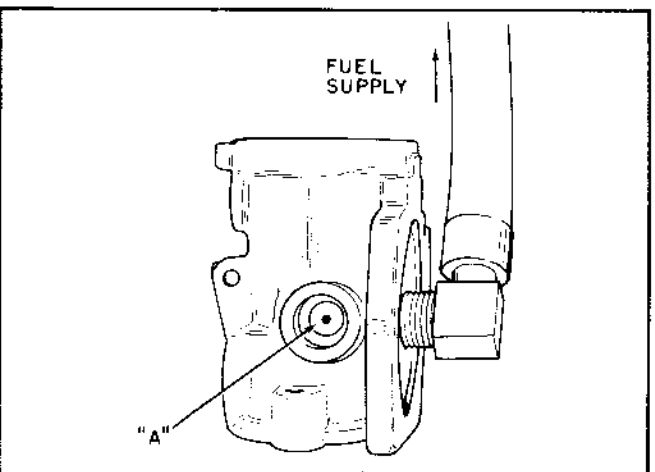

Figure 7-16. Check for Leaking Between the Valve Body and Carburetor Body
- (b) Check for leaking between the valve body and carburetor body (Fig. 7-16). Screw a NYLON fuel tank fitting into the inlet seat opening, attach a length of fuel line and connect to a fuel supply above the carburetor. Valve should not leak at "A" when fuel supply is above carburetor.